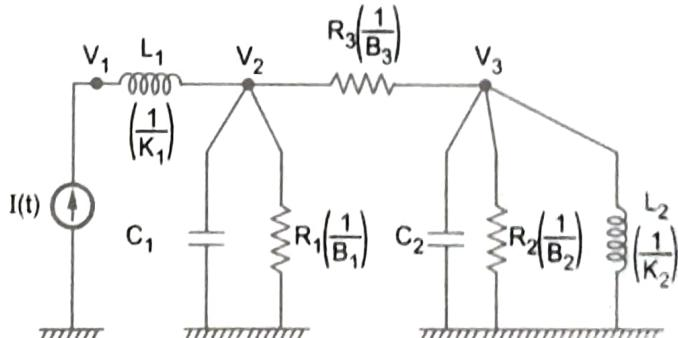

Fig. 4.7.9 (b)
From the equations (4), (5) and (6), the F-I analogous network is shown in the Fig. 4.7.9 (b).